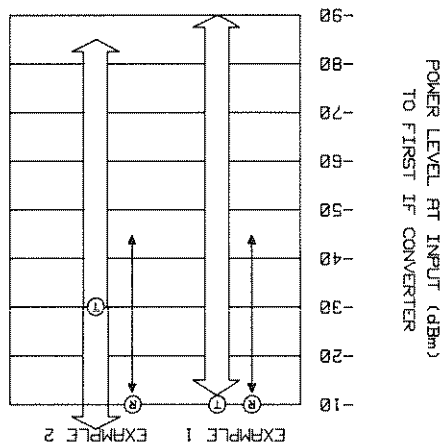

Figure 27. Dynamic Range Considerations
Figure 27 shows these dynamic range considerations. Example 1 shows levels at calibration for a passive device with both reference (R) and test (T) inputs near -10 dBm. When calibrated at these levels, the maximum dynamic range is available for insertion loss measurements.